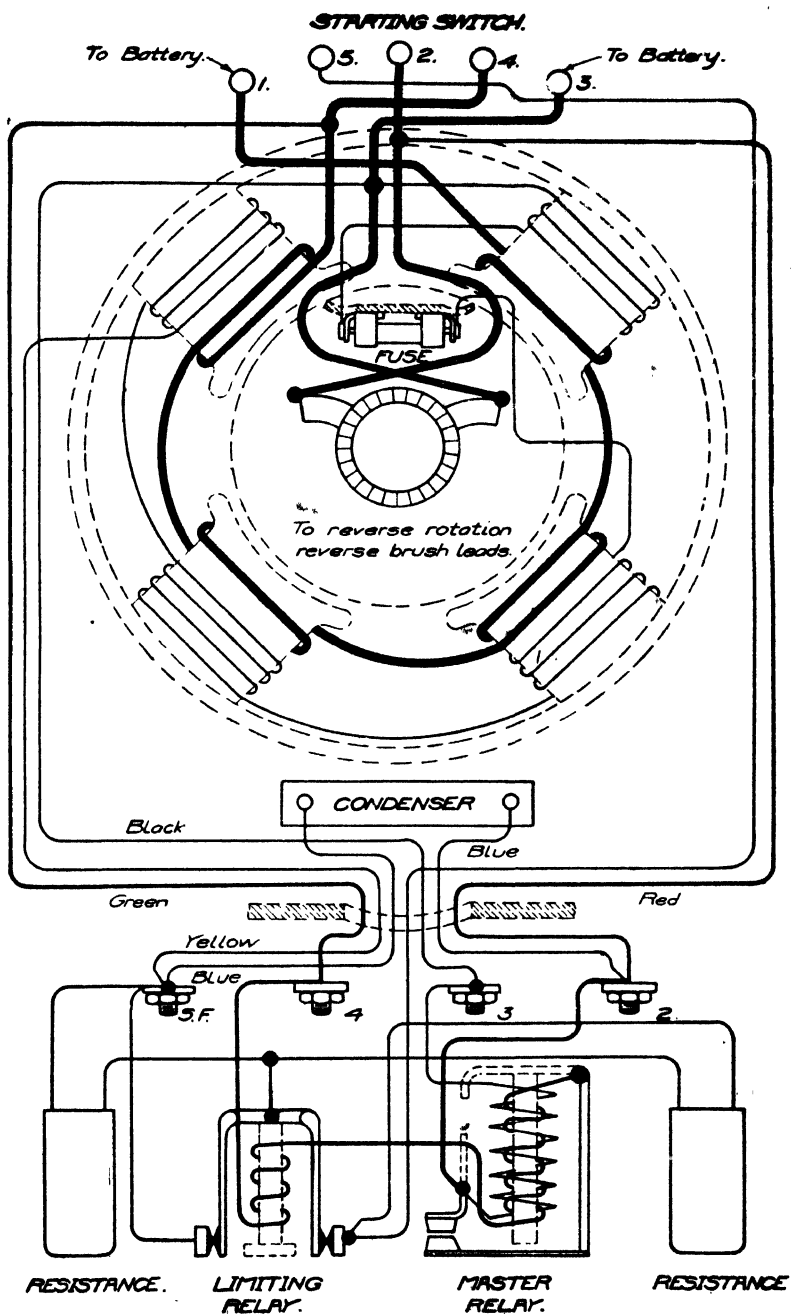

Fig. 299. Diagrammatic Section of North East Dynamotor, Showing Regulator (Limiting Relay) and Cut-Out (Master Relay)
**Regulation.** The regulation is by means of a differential winding or bucking coil, in connection with an external resistance automatically cut into the shunt-field circuit by a relay in series with the battery cut-out. See "limiting relay", Fig. 299. The "master relay" is the battery cut-out, and the condenser is to reduce sparking at the contacts of these relays.